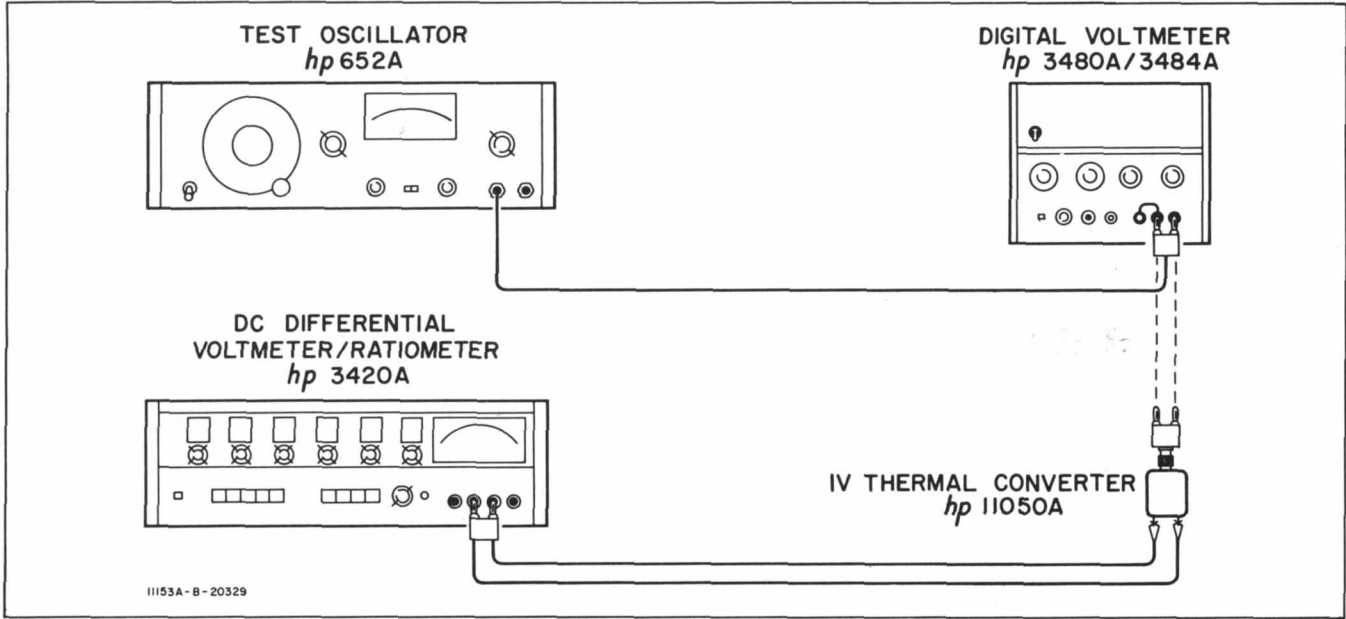

Figure 5-3. 10 MHz, 1000 mV Adjustment.
- a. Connect 3480A/B/3484A and test equipment as shown in Figure 5-3. Connect 3484A GUARD to LOW.